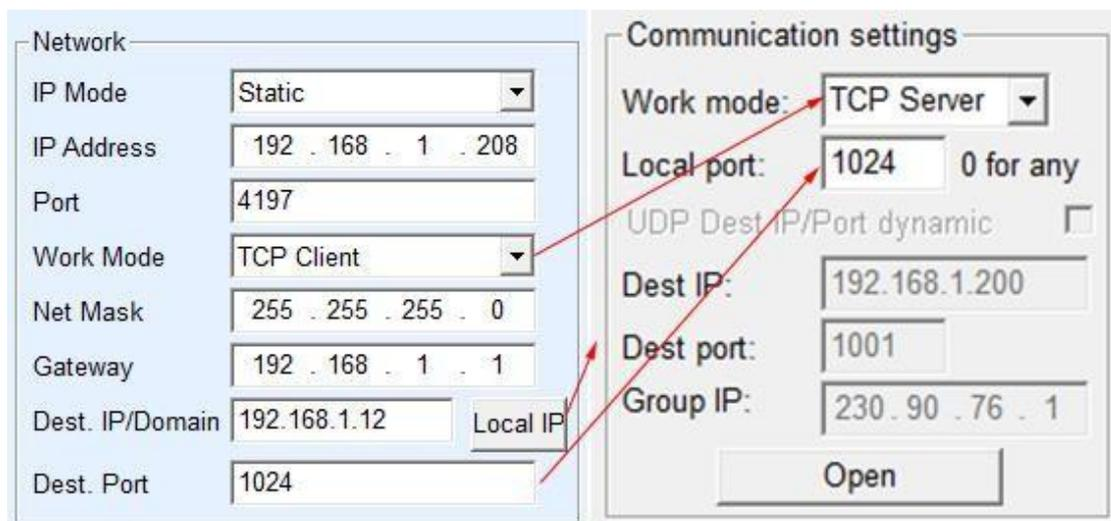

Figure 24 The serial port server as the Client
When the serial port server is the Client, there must be three corresponding relationships, as shown in figure 24. 1) working mode correspondence: the working mode of the serial port server is the Server mode corresponding to the Client mode of the network tool; 2) IP address correspondence: the destination IP of the serial port server must be the IP address of the computer on which the network tool is located; (3) port correspondence: the destination port of the serial port server must be the local port of the network tool. In this way, the serial port server can automatically connect to the network tools, send and receive data after the connection is established.